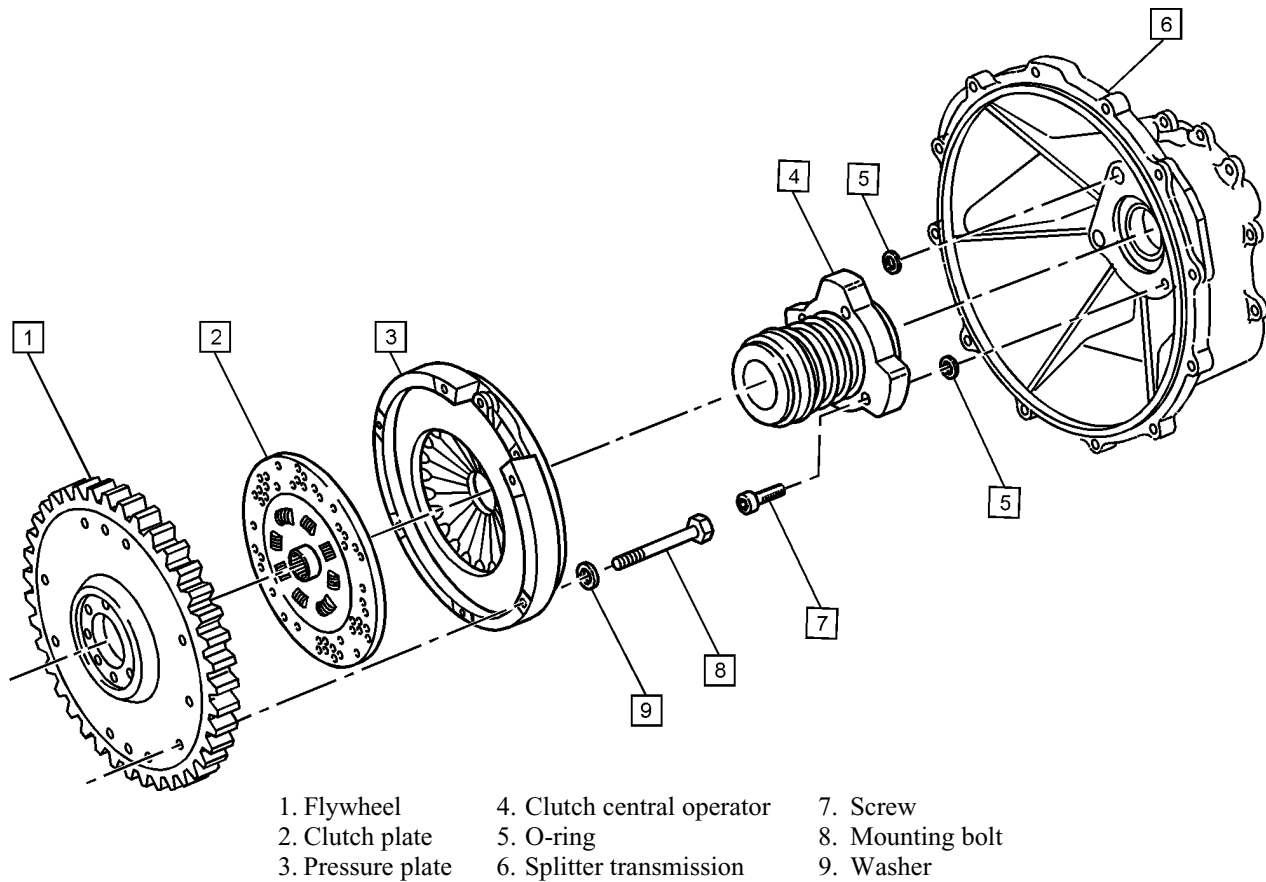
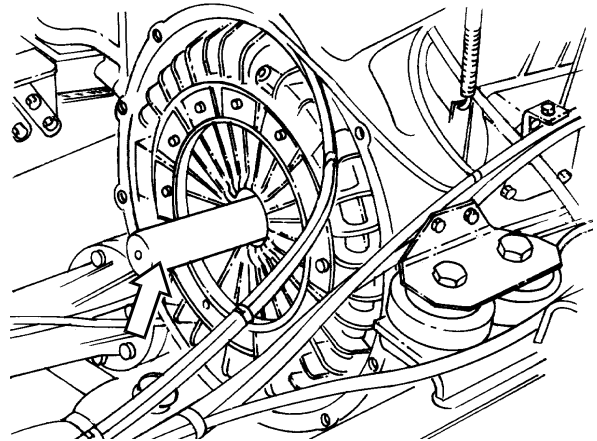

Figure 119 - Clutch Components - Exploded View
Figure 122 - Clutch and Pressure Plate - Installation
- c. Remove the clutch pressure plate M8 (Grade 10.9) mounting bolts and washers (Fig 119(8) and (9)) then remove the pressure plate (Fig 119(3)) and clutch plate (Fig 119(2)).
- a. Centre the clutch pressure plate and clutch disk using the pilot shaft (Table 2, Item 17), (Fig 122). Install the M8 (Grade 10.9) mounting bolts and washers (Fig 119(8) and (9)) and hand tighten the bolts.